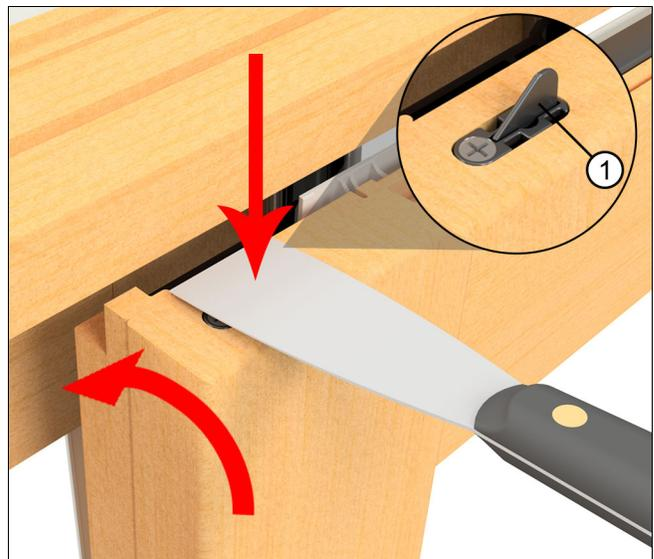

Figure 44
5. While depressing the panel guide fin, tip the panel in place. When the fin clears the head jamb, release it into the head jamb groove. See Figure 44.